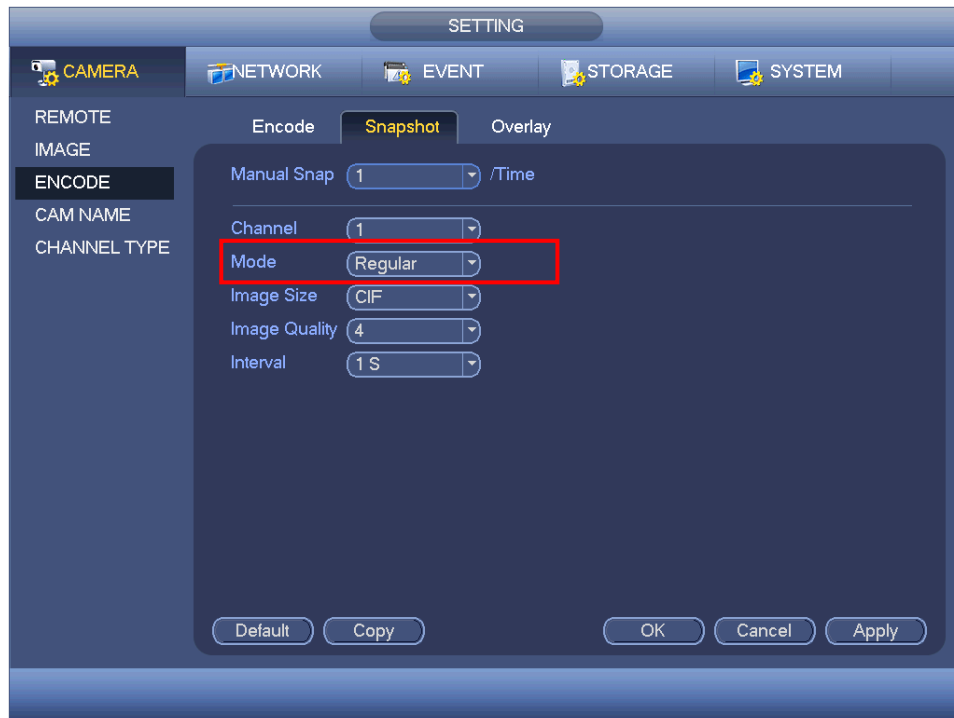

Figure 4-132
- In main menu, from Setting->Camera->Encode->Snapshot interface, here you can input snapshot mode as regular, size, quality and frequency. See Figure 4-132.